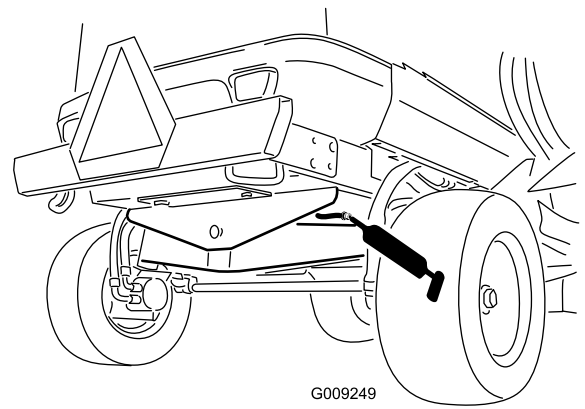

Figure 51
- 1 rear axle-pivot bushing (Figure 51)